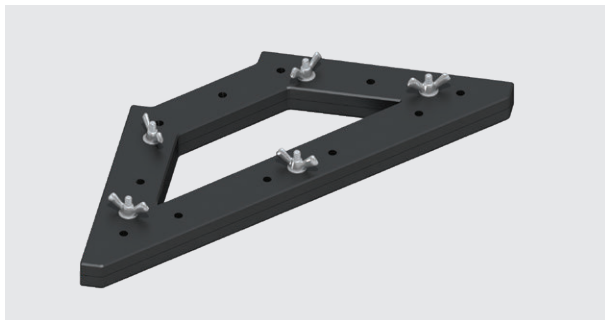

Figure 38: Profile Bracket - Black
- A jointing strip (Figure 38) should be used to align and connect the two abutting sections as sections are being built-in.